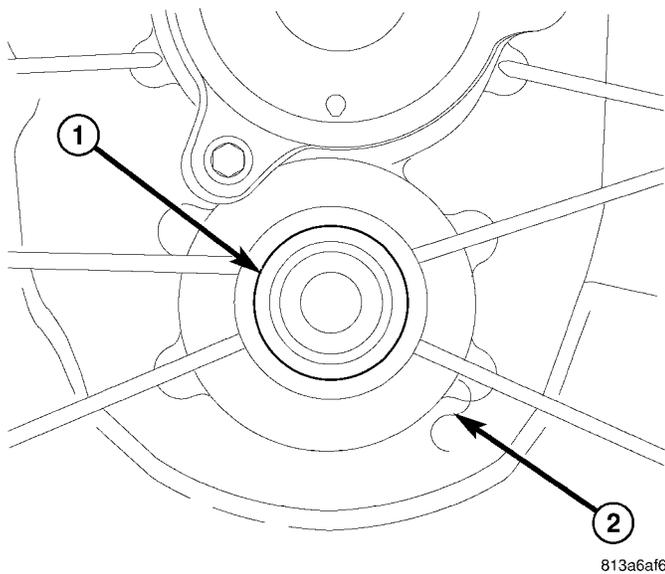

Fig. 115 COUNTERSHAFT PLUG
(18) Install countershaft plug (1) (Fig. 115) in front housing (2) with Installer 7829-A and Handle C-4171.
(19) Move shift rails to neutral.